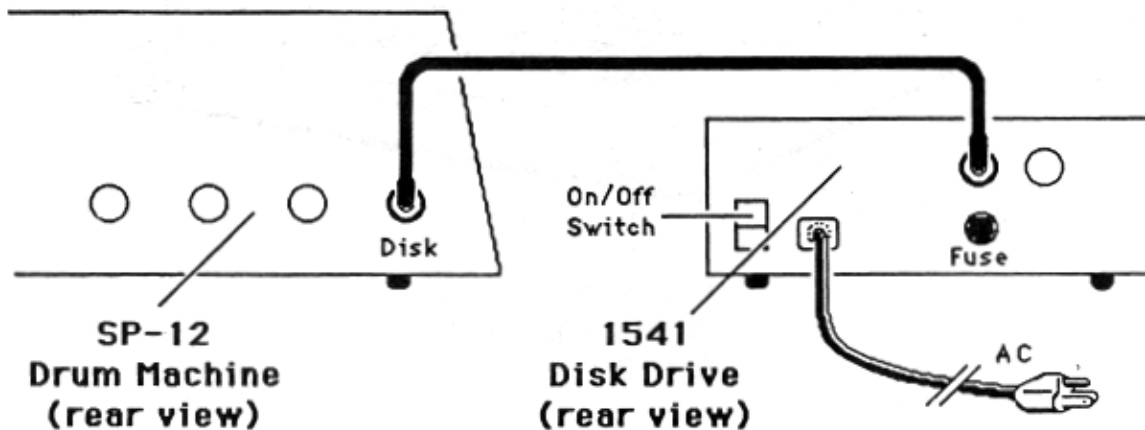

Fig. 5-4
2. Patch the disk cable from the plug above the 1541's fuse post to the SP-12's rear panel disk jack (see Fig. 5-4).